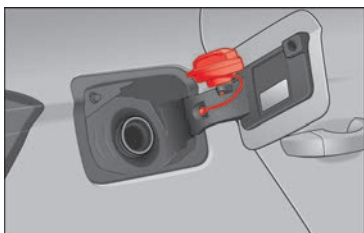

Fig. 65 Fuel tank flap with tank cap attached.
- Place it in the space on the hinge of the open flap » **Fig. 65**.